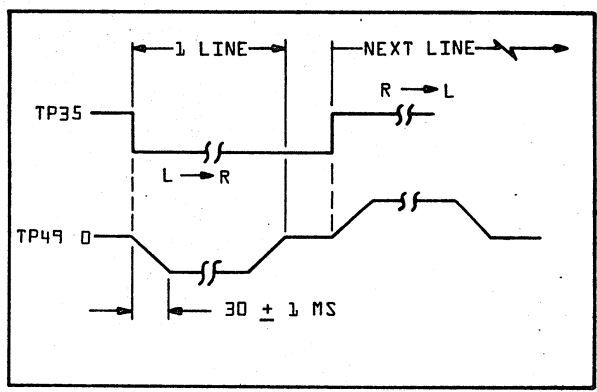

FIGURE 7-14. WAVEFORM (POT P6)
2. While in the Test Print Mode, trigger the oscilloscope on the zero-going edge of TP35 and observe wave from at TP49. Set potentiometer P6 to obtain a 30 ± 1 milli-seconds slope at the leading edge of waveform (Figure 7-14).